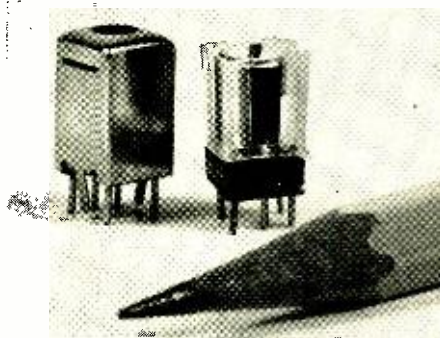

Fig. 2. Miniature i.f. transformers, one in can and one out (right), are delicate.
Recently a set of empirical equations has been developed for designing wedges for a particular cut-off frequency. However, an easier approach is to use a graph, such as that shown in Fig. 2, and make the depth (D) as required to obtain the desired cut-off frequency. The particular design shown does not neces-
Fig. 2. Wedge depth vs cut-off frequency (based on "The Design and Construction of Anechoic Sound Chambers" by L. L. Beranek and H. P. Sleeper, Jr., JASA Vol. 18, #1).
Fig. 2. (A) Test setup in anechoic chamber for testing the accuracy with which a subject can locate a sound source. Ten speakers were used. (B) Arrangement for determining effects of variable amplitude and phase on subject's ability to sense direction. (C) Arrangement used in a live listening room (Arnold Auditorium) to show the difficulty of determining sine-wave source direction with reverberation.
is a little tricky. You are likely to get into serious trouble just by stripping the threads on a miniature coil through trial adjustments that were unnecessary in the first place. Look at the two miniature i.f. transformers in Fig. 2. They are both of the same type except that the one to the right has been removed from its tiny can to show some detail. Just a little extra pressure on an alignment tool could result in permanent damage.